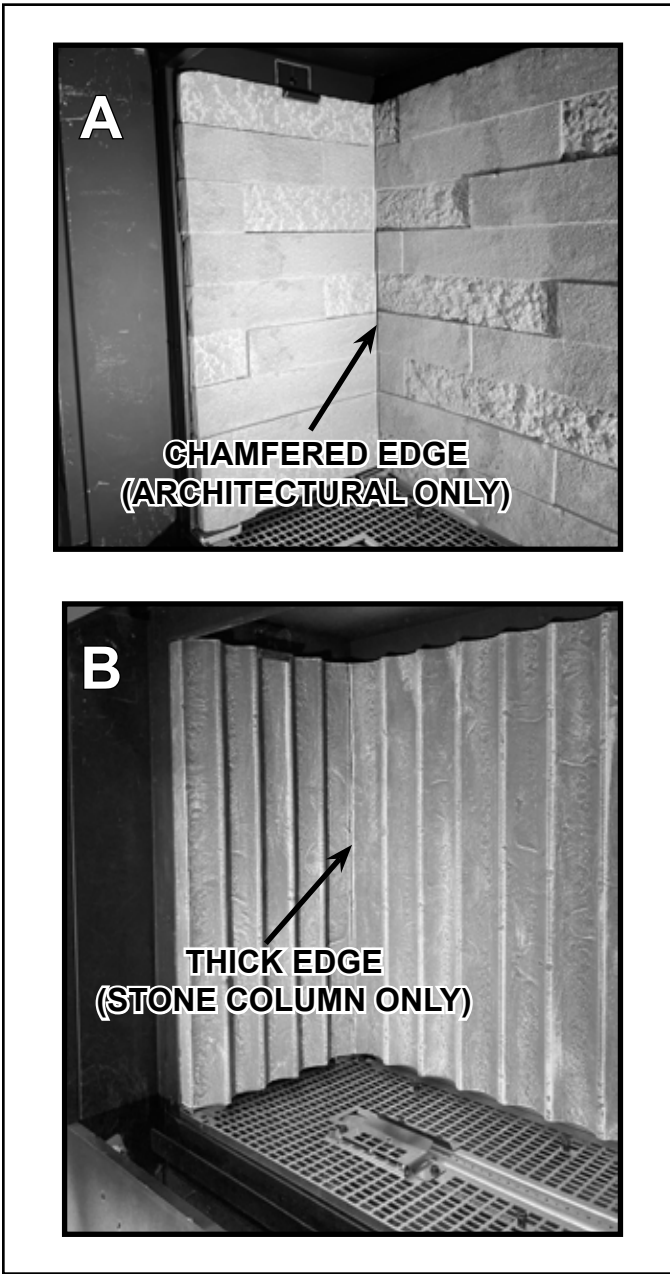

Figure 25 Side Panel Installed - Architectural Stone (A)
8. Install side panels one at a time. Place the side panel into the appliance on top of the refractory spacers as shown in Figure 25. Push it back to minimize gaps in the corner.
6. Install the left side refractory panel on top of the refractory spacers. Refer to Figure 23 and Figure 25.